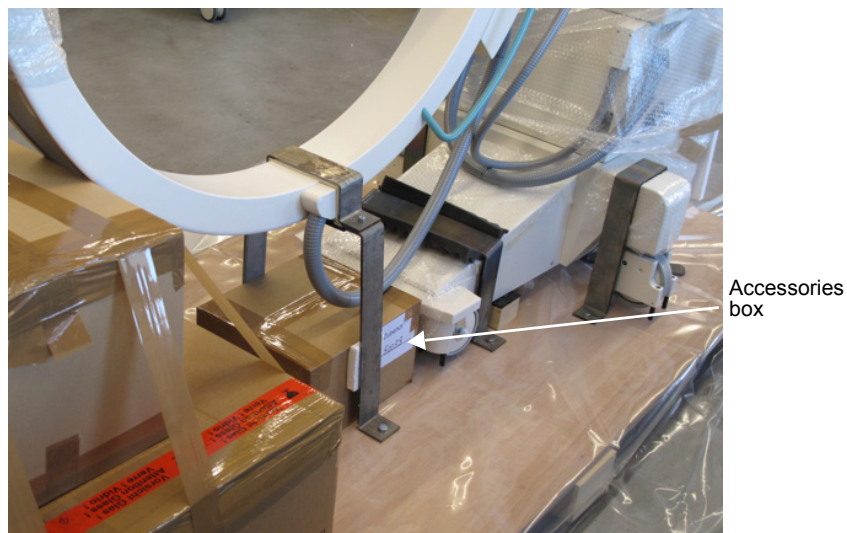

Fig. 13-18 Position of the accessories box on the pallet
- After mounting the C-arm stand on the pallet and packing monitor head and Solo Center, place the accessories box below retaining bracket 4 on the pallet as illustrated in → Fig. 13-18.